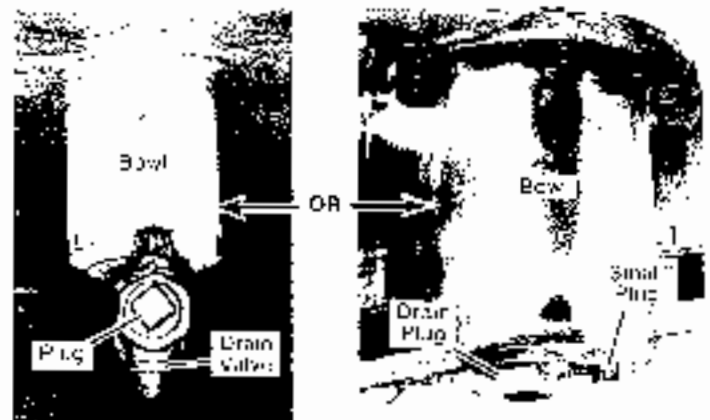
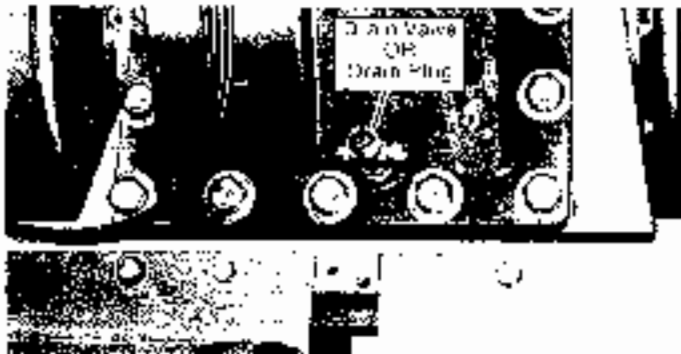

Figure 3 Rotating Sump Drain
Figure 4 Boom Hoist Housing Drain
If NOT equipped with a drain valve between the pump and the filter (see Figure 3):
Also drain the water from the boom hoist housing (see Figure 4) as follows:
- 2. Open the drain valve or remove the drain plug from the sump (see Figure 3). Also drain the boom hoist housing (see Figure 4) if it is lubricated by the circulating oil system.